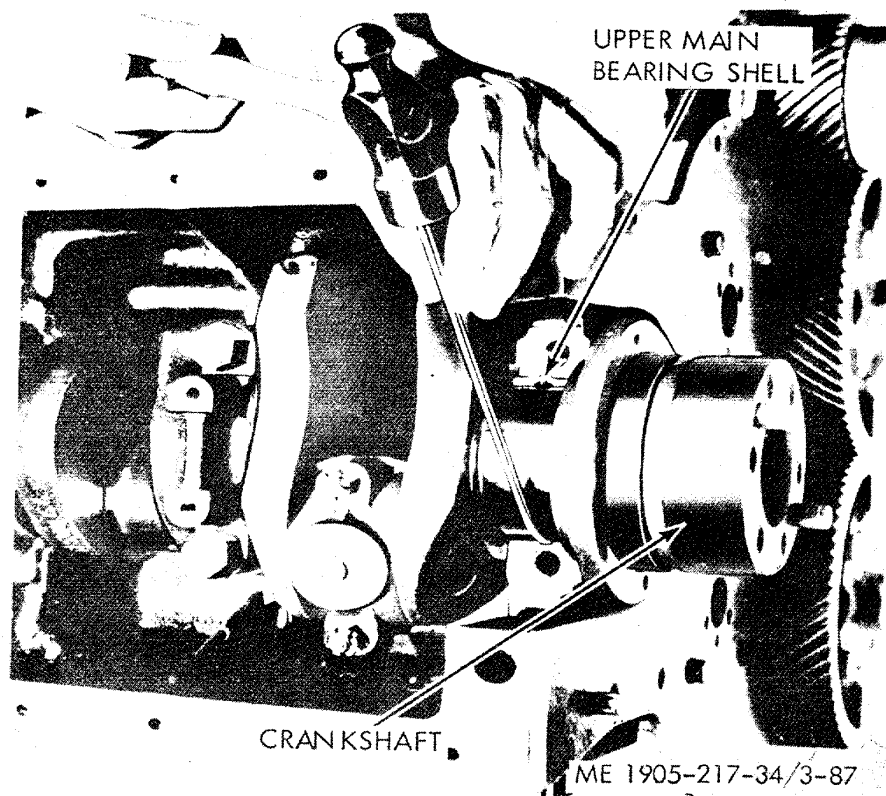

Figure 3-87. Rear main bearing upper shell, removal -crankshaft in place.
(6) Remove rear main bearing upper shell by driving on the edge of the bearing shell with a small curved rod, at the same time revolving the crankshaft, thus rolling the shell from its position, as shown in figure 3-87.